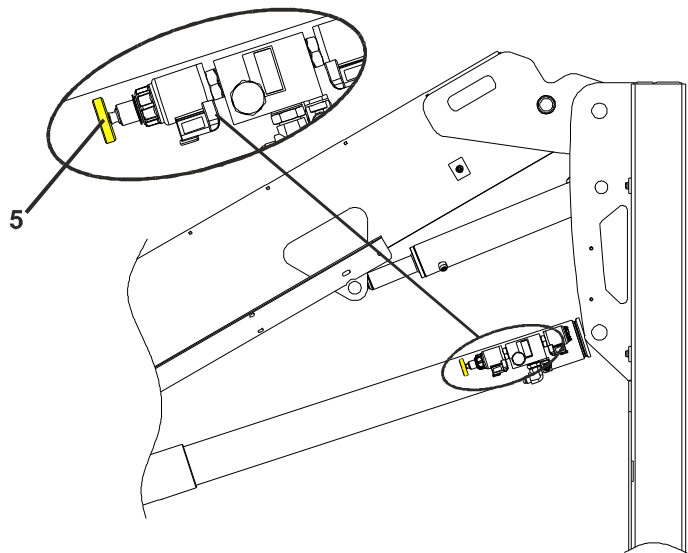

Figure 3-7. Boom Manual Descent Valve
3. To lower the boom once the mast is fully retracted, pull the manual descent valve, override button (refer to Figure 3-7.). Release the button when the platform is lowered to the desired level.